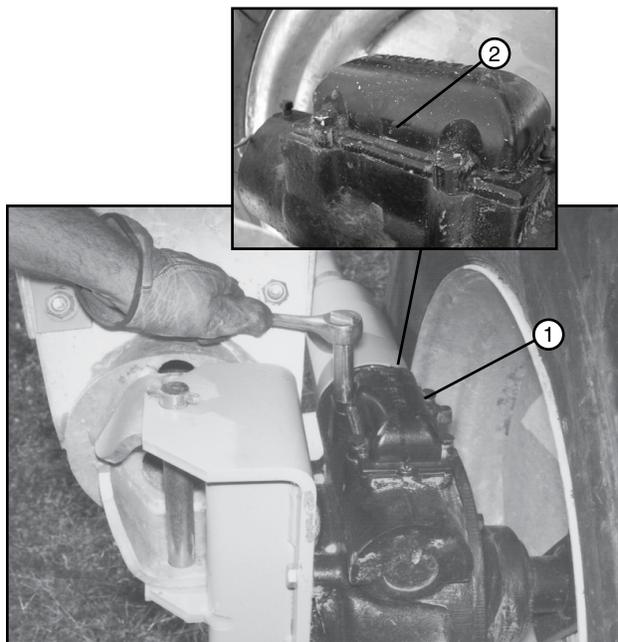

Figure 66-2 1. Expansion Chamber Cap
3. Clean all of the dirt away from the expansion chamber cap and remove the expansion chamber cap. Do not allow dirt to fall into the gearbox when removing the cap. See Figure 66-2.